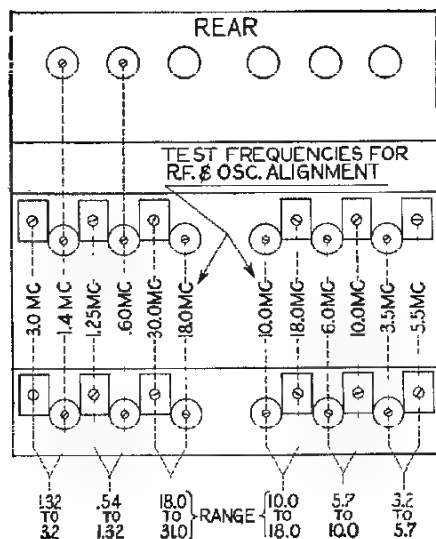

FIG. 10—Chart for R.F. alignment.
R. F. AND H. F. OSCILLATOR: Before attempting to realign these circuits the following instructions should be read through very carefully. As in the case of the I. F. amplifier, these circuits have also been accurately aligned during final inspection and great care has been taken in their design to insure stability and permanence of adjustment. Therefore, they should not be disturbed unless it is absolutely certain that readjustment is necessary. Even in that case, only very slight alterations will be necessary to restore the receiver to its original efficiency. In general, a small fraction of a turn on either inductance adjuster or trimmer condenser will suffice. These adjustments, together with their respective test frequencies, are clearly shown on the chart below (Fig. 10). On the bands from 3.2 mc. to 31 mc. it is extremely important to have the band spread dial set at 200, since that is the setting at which the main dial has been calibrated. Naturally, the alignment of the receiver cannot be more accurate than the source of the test signal. The aligning during final inspection at the factory is accomplished with special test oscillators which are frequently compared with standard frequency crystals. The front row of adjustments shown on the chart in Fig. 10, control the high frequency oscillator circuits and consequently the dial calibration. These adjustments should be disturbed *only* if the calibration of the main dial (with band spread dial at 200) is known to be off. As clearly indicated in the diagram, the inductance should be adjusted at the low test frequency in each band and the trimmer capacitor at the high test frequency. These adjustments mutually affect each other, therefore, if any considerable change is made at one end of a band the other end of the same band must be readjusted. This procedure must be repeated until no further readjustment at either end is necessary.